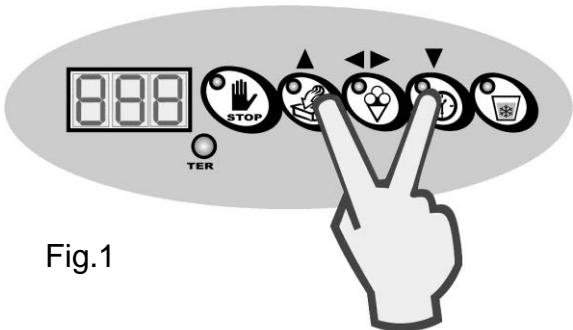
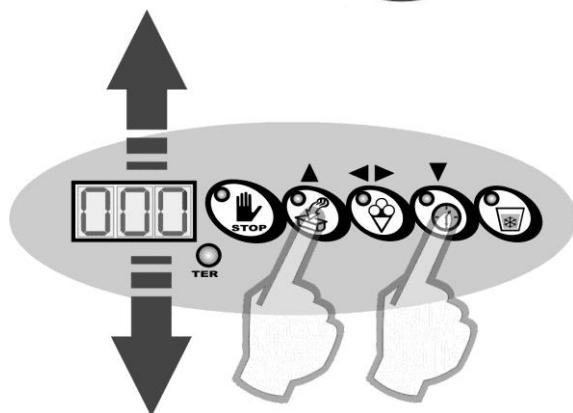

Fig.1
Fig.2
4. Press the "UP" and "DOWN" keys simultaneously until the password selection screen appears (fig. 1). Enter the password by increasing or decreasing the values via the UP and DOWN keys (FIG. 2), then press CONFIRM to validate the typed in password. If you do not know the password, contact the TAYLOR assistance service.
6. If you do not wish to change the value of the selected step, press "UP" to directly access the following step. (fig. 2)